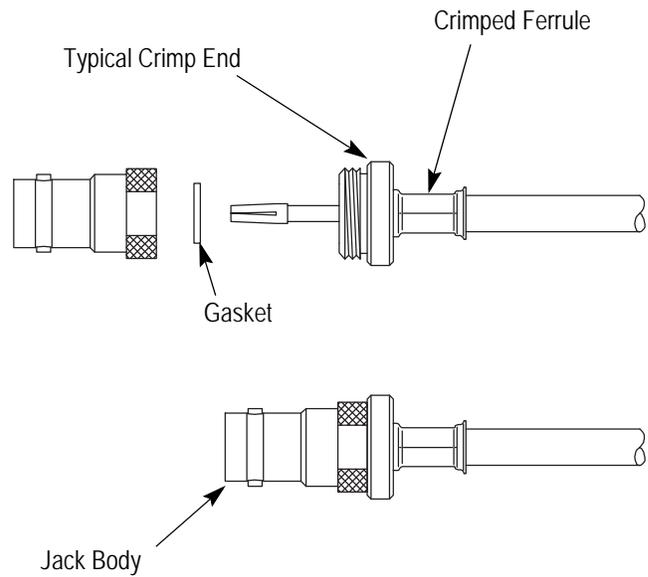

Figure 2
Refer to Figure 2 for assembling crimp end and connector body.
- Assemble the crimp end into the connector body as shown in Figure 2, after the ferrule and contact portion is crimped.